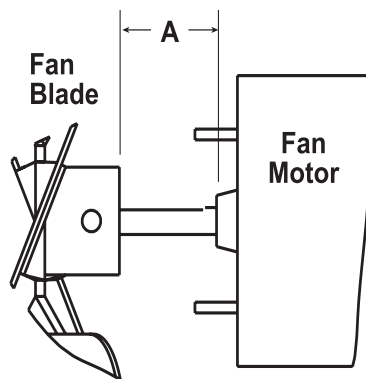

Figure 33. Fan and Motor Spacing (Refer to Table 25)
6. Ensure that fan blade is in proper position on shaft (see Figure 33), that setscrew is tightened to 130 (± 10) inch-pounds, and that nuts securing motor to fan guard are torqued to to 30 inch-pounds.
*See Figure 33.